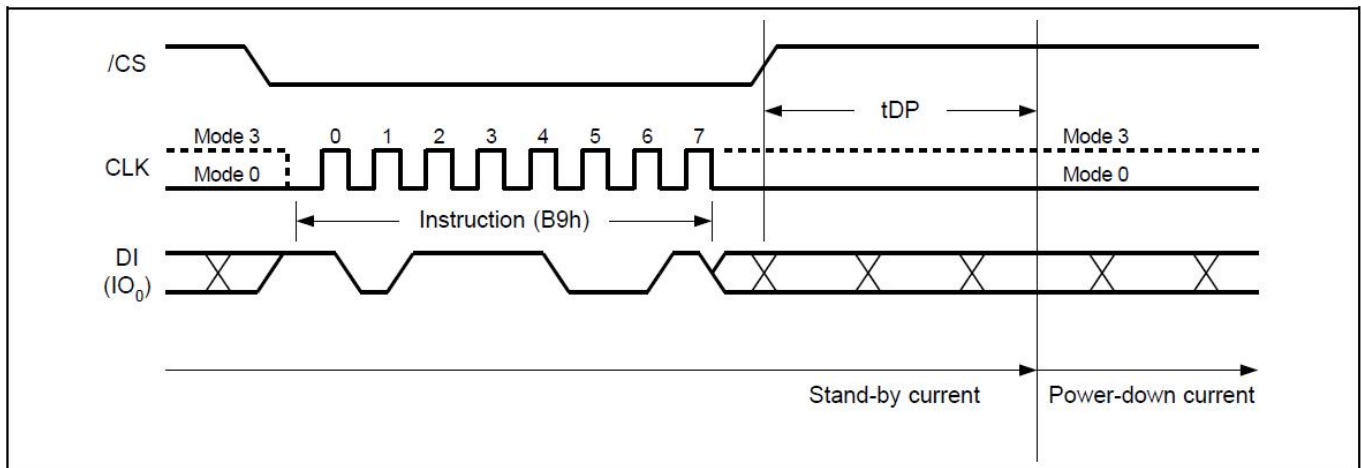

Figure19. Deep Power-Down Sequence Diagram
The Deep Power-Down Mode automatically stops at Power-Down, and the device always in the Standby Mode after Power- Up. The Deep Power-Down command sequence: CS# goes low → sending Deep Power-Down command → CS# goes high. The command sequence is shown in Figure19. CS# must be driven high after the eighth bit of the command code has been latched in; otherwise the Deep Power-Down (DP) command is not executed. As soon as CS# is driven high, it requires a delay of t_{DP} before the supply current is reduced to IDPD and the Deep Power-Down Mode is entered. Any Deep Power- Down (DP) command, while an Erase, Program or Write cycle is in progress, is rejected without having any effects on the cycle that is in progress.